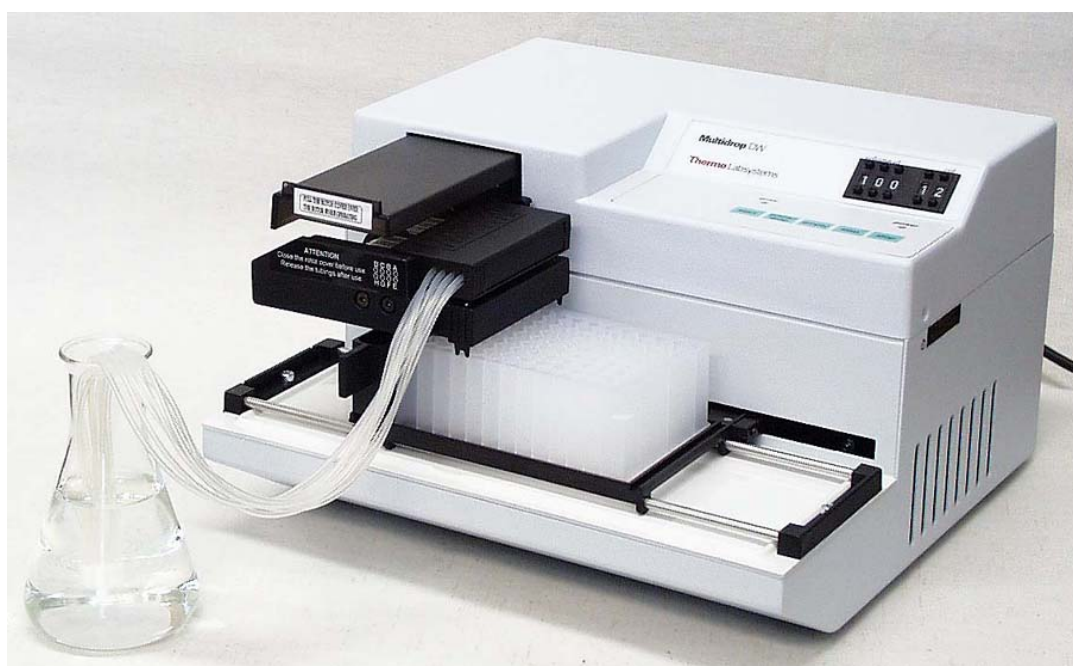

Fig. 6.23 Dispensing into a deep-well plate once the pump rotor height has been adjusted
- Once the pump rotor height has been adjusted correctly for the 50 mm high deep-well plate, dispensing can proceed normally (*Fig. 6.23*).